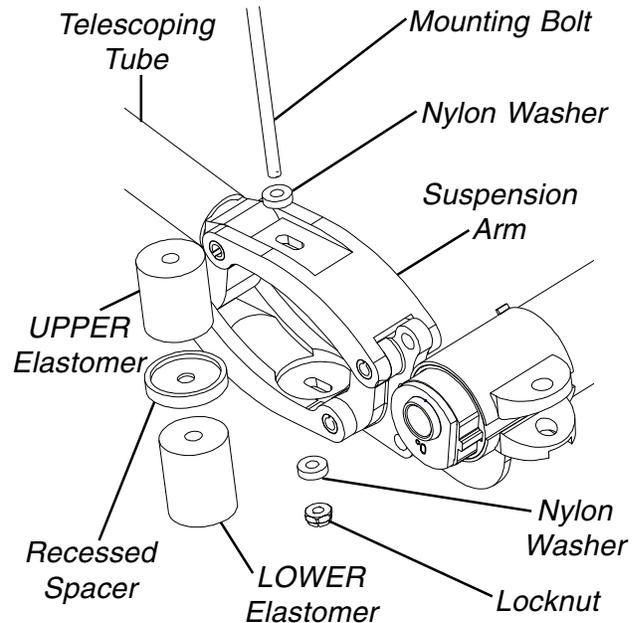

FIGURE 1 - REPLACING REAR ELASTOMERS
**REPLACING REAR ELASTOMERS (FIGURE 1)**
3. Reinstall the nylon washers, UPPER and LOWER elastomers determined in STEP 1 and recessed spacer into the suspension tube with the mounting bolt. Refer to FIGURE 1 for hardware orientation.